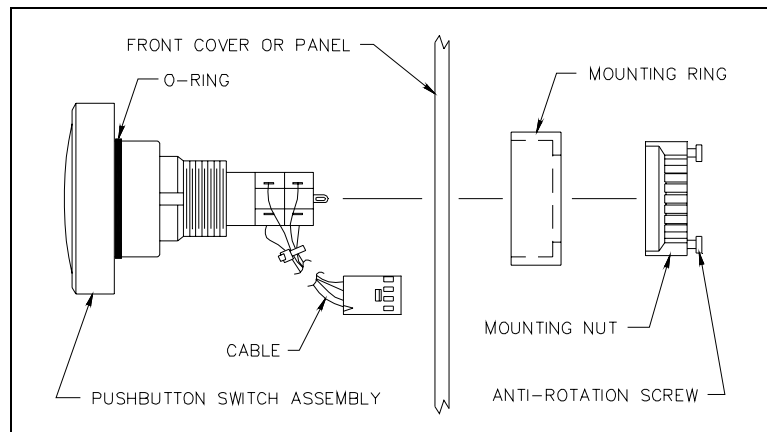

Figure 1. Push-Button Switch Assembly, Exploded View
7. Using the 1/8-inch straight slot screwdriver, loosen the anti-rotation screws on the mounting nut. See Figure 1.
1. From the front side of the panel, push the new push-button assembly through the hole. See Figure 1.
2. Secure the push-button assembly to the front cover using the mounting ring and the mounting nut. See Figure 1.
**NOTE:** Ensure that the o-ring seal is in its proper location, as shown in Figure 1.
2. Secure the push-button assembly to the panel using the mounting ring, and the mounting nut. See Figure 1.
**NOTE:** Ensure that the O-ring seal is in its proper location, as shown in Figure 1.